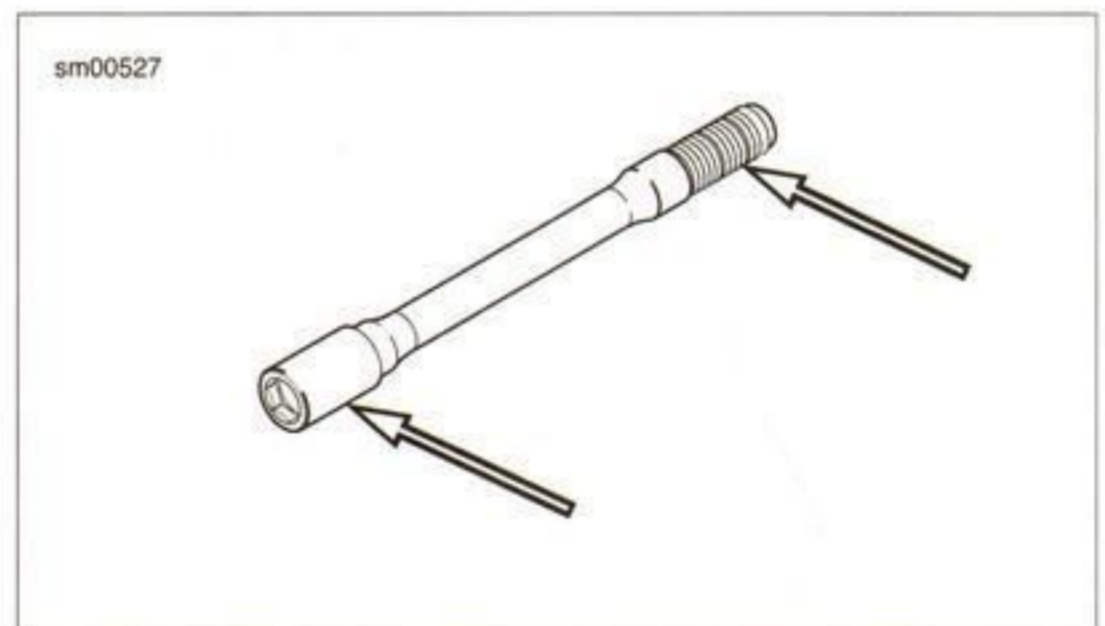

Figure 2-24. Anti-Seize Lubricant Location
- a. See Figure 2-24. Apply a light coat of LOCTITE ANTI-SEIZE LUBRICANT to the threads and bearing surfaces of the axle and the right and left wheel bearing bores.